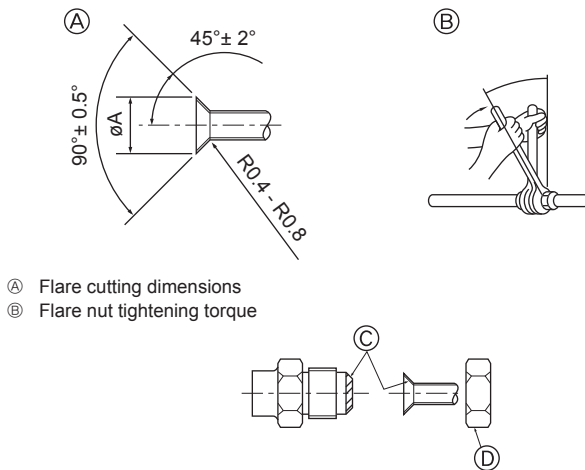

Fig. 4-2
(A) (Fig. 4-2)
(B) (Fig. 4-2)
4.2. Connecting pipes (Fig. 4-2)